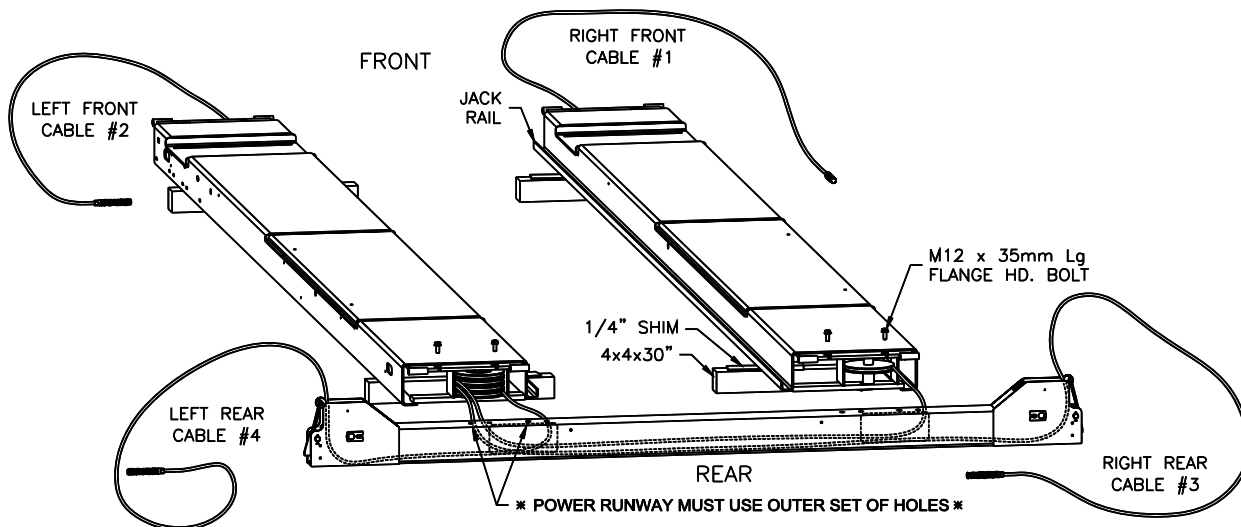

Fig 4 – Runway Layout
- 3) Position runways on blocking (*see Fig 4*) per layout lines established in step 1. Use four 30" long 4x4's spanning the width of the runway and four 1/4" spacers to shim up the jack-rail side of the runway. Cable #1, #3, & #4 should be extending out from the rear of the power runway and cable #2 from the front of the power runway, **Fig 4**.
- 4) Reach in through either of the access holes in the rear cross beam tube and pull out the roll of 1/8" dia. plastic air line connected to the air cylinder at the end of the cross beam. Repeat for opposite access hole and position the cross beam near the end of the runways as in **Fig 4**.
- 11) Attach the rear cross beam to the runways (**Fig. 4**) with M12 x 35mm lg. flange head bolts being careful not to pinch the air line. Leave the air lines hanging out the bottom of the cross beam access holes at this time, they will be fed in through the runway after the lift is raised. **The outermost runway slots should be in line with the outermost holes in the top of the cross beam, see Fig. 4.** Do not torque bolts yet.